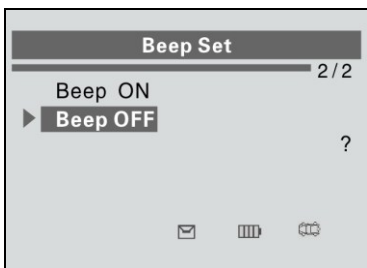

Figure 3.11
- 2) From **Beep Set** menu, use the **UP/DOWN SCROLL** button to select **Beep ON** or **Beep OFF** to turn on/off the beep. (Figure 3.11)